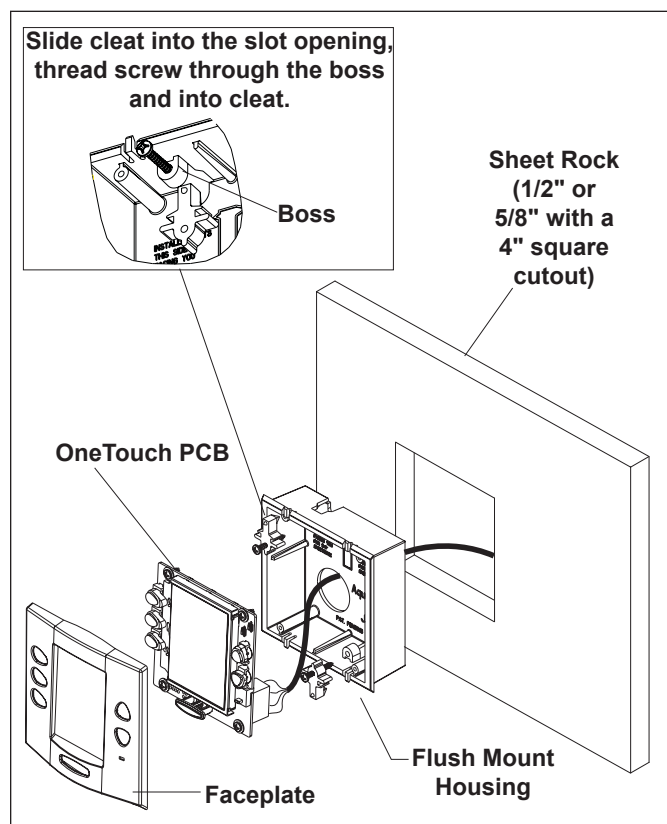

Figure 29. OneTouch™ Flush Mount Installation
4. Pull the 4-conductor cable through the hole in the wall and the hole in the flush mount box. Push the flush mount box into the hole in the wall with the correct orientation (see Figure 29).
6. Insert a screw through the screw boss (see Figure 29). Put a cleat into the top "U" shaped hole. Hand tighten the screw and repeat the process for the bottom cleat.